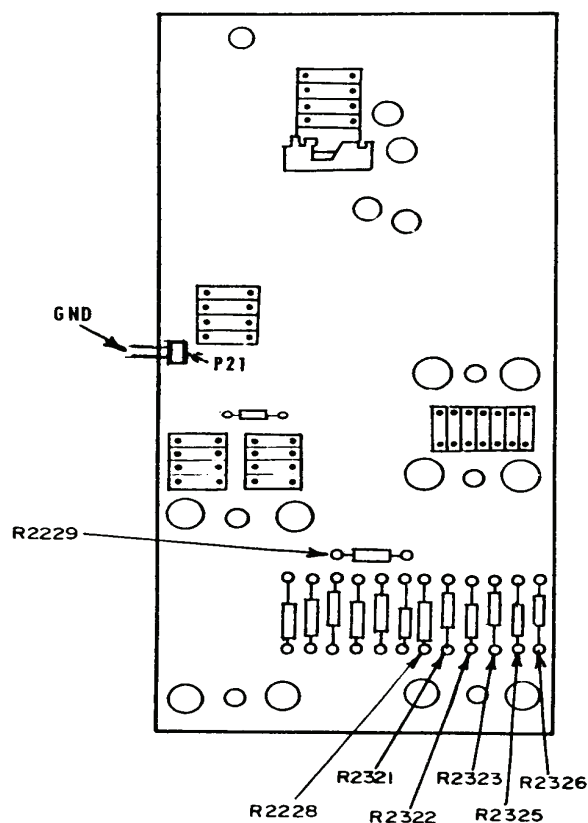

Figure 6. Vert amp/slow ramp board - top view.
- (i) **CABLE DIELECTRIC** pushbuttons as listed in (1) through (3) below:
- (2) Connect termination to TI **CABLE** connector.
- (3) Position base of pulse on crt horizontal graticule centerline, using **POSITION/FINE** controls.
- (4) Remove termination. If trace shifts by more than 0.5 divisions, perform **b** below.
- (5) Set **mp /DIV** switch to **500** or lower to obtain 1.000 V in next step.
- (6) Connect multimeter negative lead to ground terminal GND of P21 (fig. 6) and positive lead to left end of R2229 (fig. 6).
- (7) Adjust **POSITION/FINE** and **ZERO REF (SET)** controls until multimeter indicates $1.000\text{ V} \pm 0.008\text{ V}$.
Test instrument resistor test points (fig. 6)	Multimeter indications (V dc)